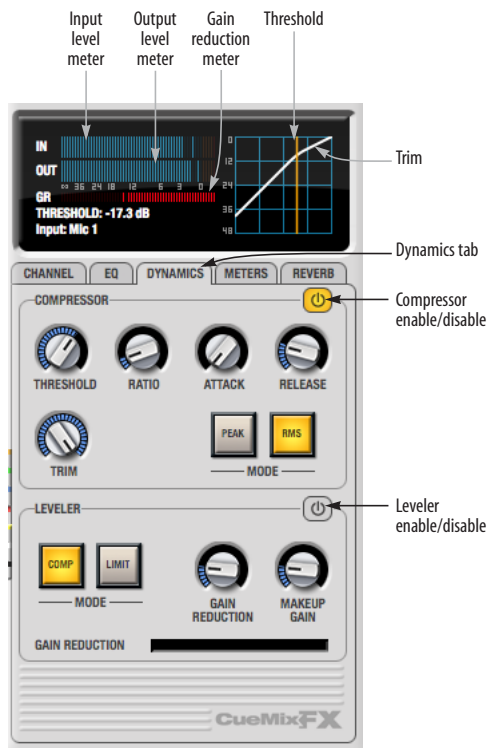

Figure 11-21: The Dynamics tab.
The Dynamics tab (Figure 11-21) displays the Dynamics processing settings for the input or output channel that currently has the focus. Click any focus button in the Inputs or Outputs tab to view the Dynamics tab settings for the channel.
Each input and output channel has a global *Dynamics enable/disable* button (Figure 11-3 and Figure 11-6). This button enables or disables all dynamics processing for the channel. In addition, the Dynamics tab has two different dynamics processors, the Compressor and Leveler, which can be individually enabled or disabled (Figure 11-21) for the channel.
The *Compressor* (Figure 11-21) lowers the level of the input when it is above the threshold. The amount of attenuation is determined by the *Ratio* and the input level. If the input is 6 dB above the *Threshold* and the Ratio is 3:1, then the output will be 2 dB above the Threshold. When the input level goes above the threshold, the attenuation is added gradually to reduce distortion. The rate at which the attenuation is added is determined by the *Attack* parameter. Likewise, when the input level falls below the Threshold, the attenuation is removed gradually. The rate at which the attenuation is removed is determined by the *Release* parameter. Long Release times may cause the audio to drop out briefly when a soft passage follows a loud passage. Short Release times may cause the attenuation to pump when the average input level quickly fluctuates above and below the Threshold.
The Threshold can be adjusted by turning the Threshold knob or by dragging the Threshold line directly in the compressor graph (Figure 11-21).
The *Input Level* meter (Figure 11-21) shows the level of the input signal before it enters the compressor. It shows either the peak level or the RMS level, depending on which mode is currently chosen.
The Gain reduction (*GR*) level meter (Figure 11-21) displays the current amount of attenuation applied by the compressor.
The *Output Level* meter (Figure 11-21) displays the peaks of the output signal. Trim is applied before the Output Level meter.
The Leveler™ (Figure 11-21) provides an accurate model of the legendary Teletronix™ LA-2A® optical compressor, known for its unique and highly sought-after Automatic Gain Control (AGC) characteristics. The 828mk3 Leveler faithfully models the LA-2A using the on-board DSP with 32-bit floating point precision.
The *Comp* and *Limit* buttons (Figure 11-21) model the original LA-2A Limit/Compress mode switch. The effect is very subtle, with the Limit option behaving only slightly more like a limiter than a compressor. The switch increases the level of the input to the AGC model and runs the attenuator at a slightly lower level. The Leveler then responds more strongly to transients, but otherwise still behaves like a leveling amplifier.
*Gain Reduction* (Figure 11-21) sets the strength of the signal sent to the AGC model.
*Makeup gain* (Figure 11-21) amplifies the output signal to make up for gain reduction.